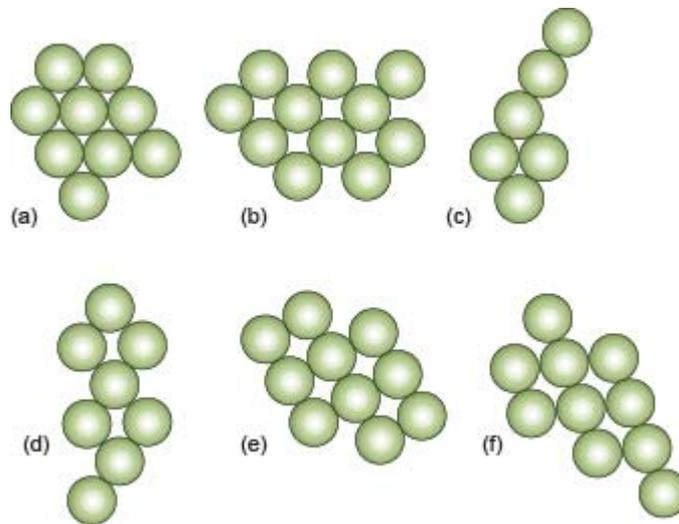

Figure C3. Six segments of arrays of packed circles.
**E1.** Identify each of the six structures shown in Figure C3. (Is it oblique, square, hexagonal?). Use the shape of the interstices to help you.
**E2.** Draw the primitive unit cells onto copies of the structures shown in Figure C3.